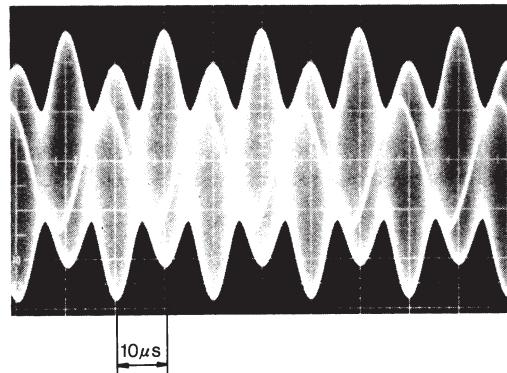
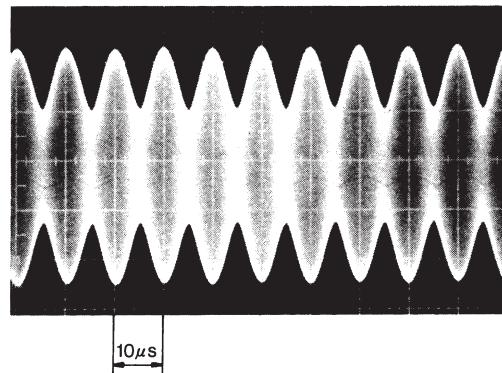

Fig. 4
Fig. 5
- ① Prepare the oscilloscope by setting the input coupled switching to AC with a horizontal sweep axis of $10 \mu\text{s}/\text{div}$ and a vertical axis of $0.5 \text{ V}/\text{div}$, and connecting CH1 to the PM terminal. At this time, the trigger source should be taken from INT CH1.
- ② A sine wave appears in CH1. The phase of this sine wave moves in accordance with the scale movement, allowing the envelope ripple to be observed. First rotate the VR-2 volume to set the sine wave amplitude to approximately 2 Vp-p . (This is called the gain adjustment.)
- ③ When the VR-1 volume is rotated completely to the right (clockwise) and the scale is moved, the waveform shown in Fig. 4 appears. At this point, adjust the VR-4 volume so that neighboring peaks are of the same height as shown in Fig. 5 (This is called the DC balance adjustment.) If the minimum PM signal amplitude falls to 0.5 Vp-p or less, the alarm function may operate.
- ④ When the VR-1 volume is rotated completely to the left (counter-clockwise) and the scale is moved, the waveform shown in Fig. 4 appears as in step ③ above. At this point, adjust the VR-5 volume so that neighboring peaks are of the same height as shown in Fig. 5.